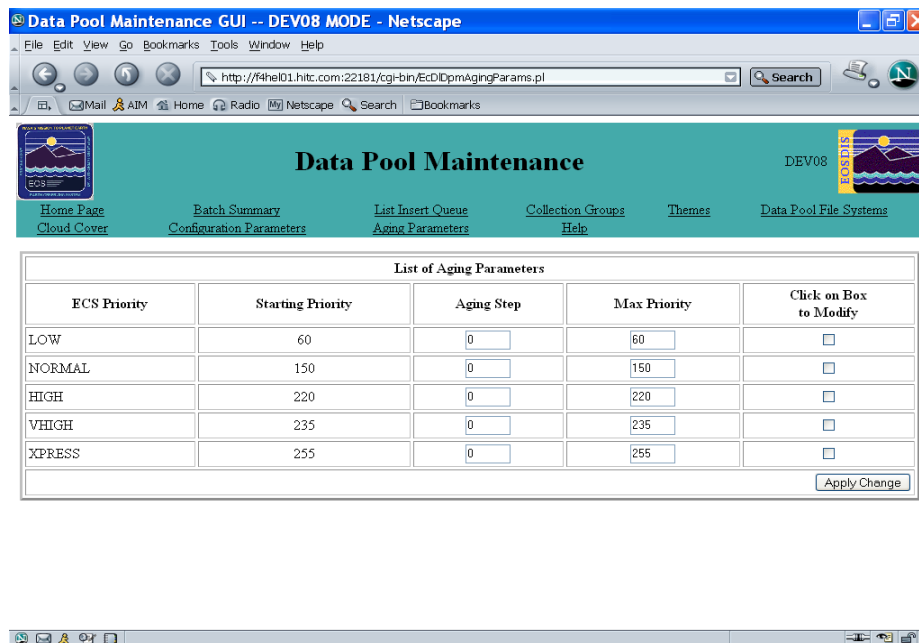

Figure 14.10-13. List of Aging Parameters Page
- The **List of Configuration Parameters** page is displayed (see Figure 14.10-13).
Figure 14.10-13 shows the **List of Aging Parameters** page, which is accessible from the **Aging Parameters** link on the **DPM GUI Home Page** (Figure 14.10-2). The page lists the starting priority, aging step, and maximum priority associated with each ECS priority. The information is accessible to both full-capability and limited-capability operators.
- The **List of Aging Parameters** page is displayed (see Figure 14.10-13).